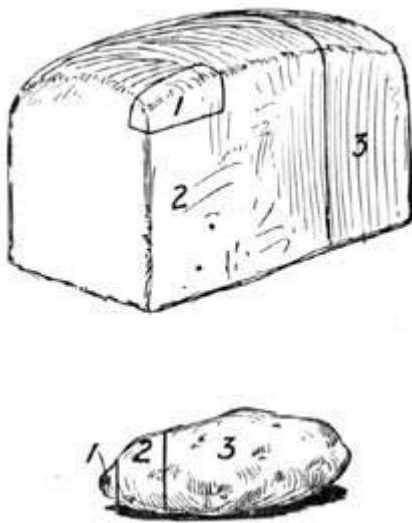

FIG. 36.—Diagram of the composition of a loaf of bread and of a potato:
68. Relation of Water to Human Life. Water is one of the most essential of food materials, and whether we drink much or little water, we nevertheless get a great deal of it. The larger part of many of our foods is composed of water; more than half of the weight of the meat we eat is made up of water; and vegetables are often more than nine tenths water. (See Laboratory Manual.) Asparagus and tomatoes have over 90 per cent. of water, and most fruits are more than three fourths water; even bread, which contains as little water as any of our common foods, is about one third water (Fig. 36).